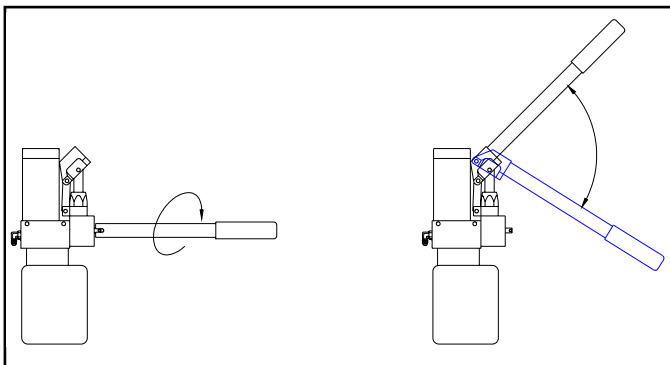

FIGURE 2-11: MANUAL BACK-UP PUMP – RAISE PLATFORM
- 1) Refer to **Figure 2-11**. Check pump release valve to verify it is closed.
- 1) Refer to **Figure 2-11**. Check pump release valve to be certain it is closed; DO NOT OVER-TIGHTEN VALVE.